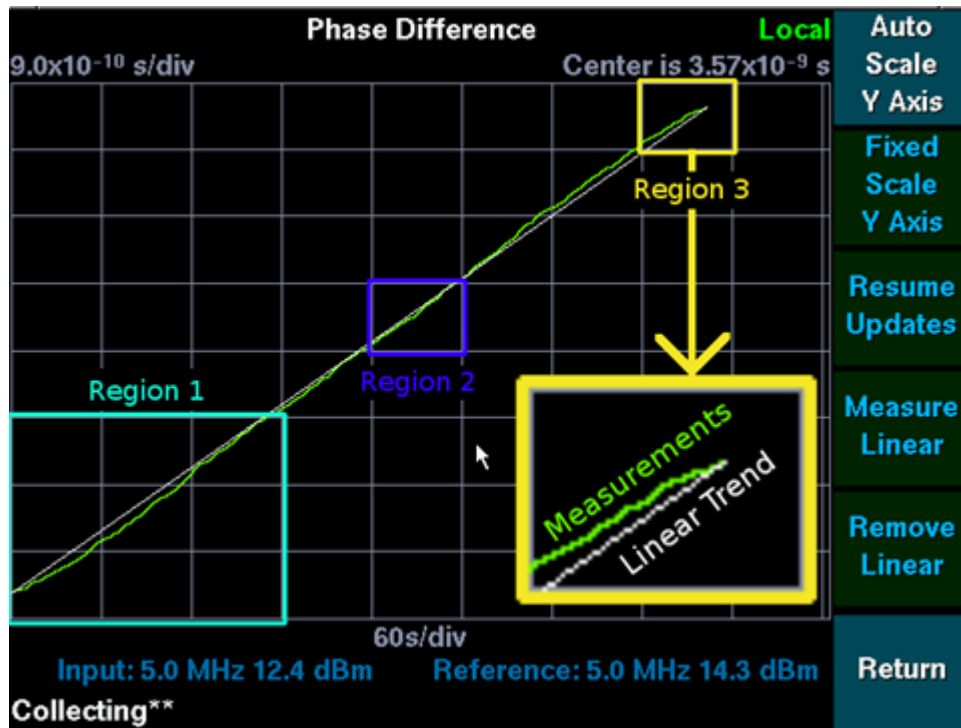
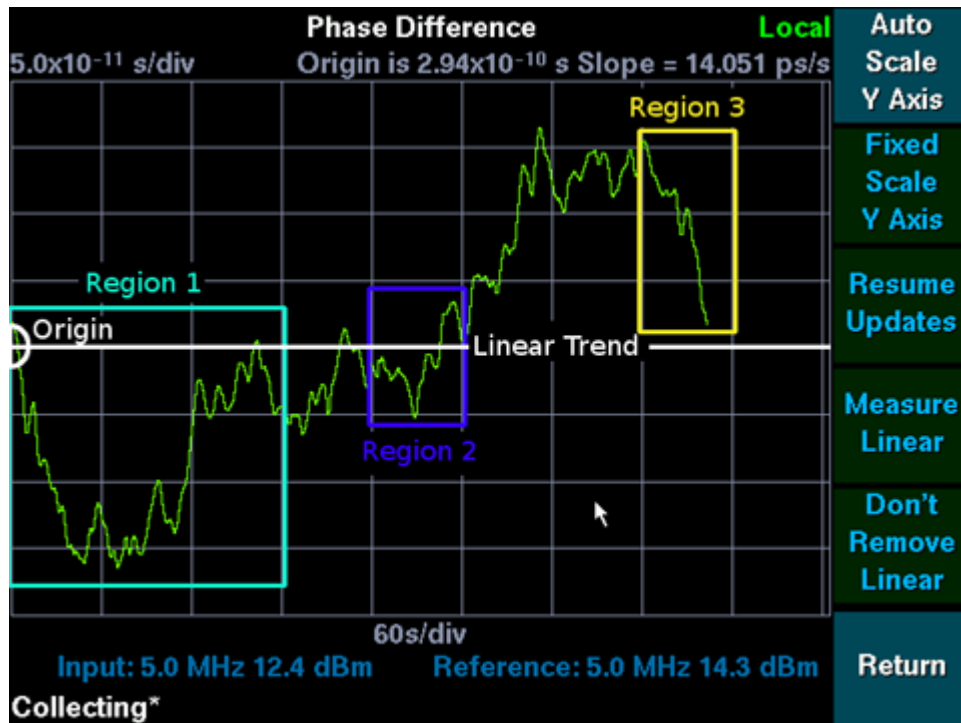
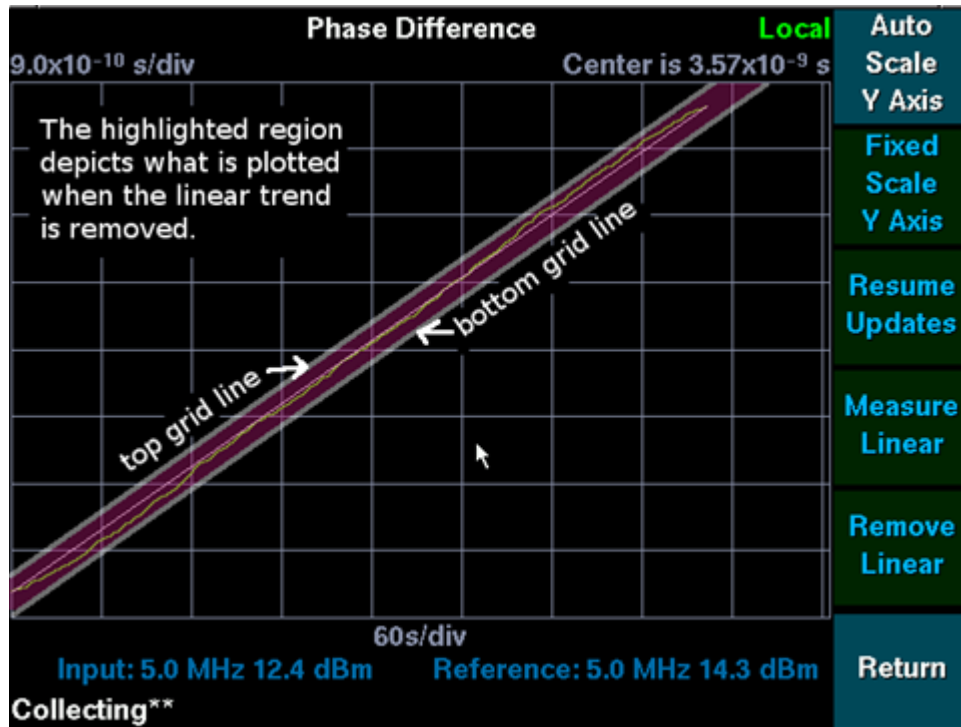

Figure 13: Linear Trend in Phase Difference Measurements
Figure 14: Linear Trend Removed
Figure 15: Conceptual Representation of Figure 14 Linear Trend Removed in terms of Figure 13 Linear Trend in Phase Difference Measurements.
Consider the phase difference measurements plotted in Figure 13 Linear Trend in Phase Difference Measurements. Over time they exhibit the trend discussed thus far. The white line segment shows this trend, as it is measured by the **Measure Linear** softkey. The slope of this line segment (from the first to the last available measurement) is taken into consideration when the trend is measured.
Make the following observations about Figure 13 Linear Trend in Phase Difference Measurements:
Once the trend has been measured, it can be removed from the plotted measurements, by pressing the **Remove Linear** softkey shown in Figure 13 Linear Trend in Phase Difference Measurements. Removing the linear trend from this data set results in the display shown in Figure 14 Linear Trend Removed:
Make the following observations about Figure 14 Linear Trend Removed:
- *Slope* shows by how much the white line labeled *Linear* in Figure 14 Linear Trend Removed was adjusted. It is the slope of the line through the oldest and most recent measurement at the time the linear trend was measured using the **Measure Linear** softkey.
Compare each of the rectangular regions with its counter part in Figure 13 Linear Trend in Phase Difference Measurements.
- Trend line intersections which were barely noticeable in Figure 13 Linear Trend in Phase Difference Measurements can readily be seen.
The **Remove Linear** softkey has changed to **Don't Remove Linear**. Pressing it at this time will stop removing the trend from the data and display data set as seen in Figure 13 Linear Trend in Phase Difference Measurements.
Pressing the **Remove Linear** softkey essentially plots the phase difference measurements' distance from the trend last measured by the **Measure Linear** softkey. The top and bottom most grid lines in Figure 14 Linear Trend Removed are parallel to the linear trend line segment in Figure 13 Linear Trend in Phase Difference Measurements, as depicted in Figure 15 Conceptual
Representation of Figure 14 Linear Trend Removed in terms of Figure 13 Linear Trend in Phase Difference Measurements.: